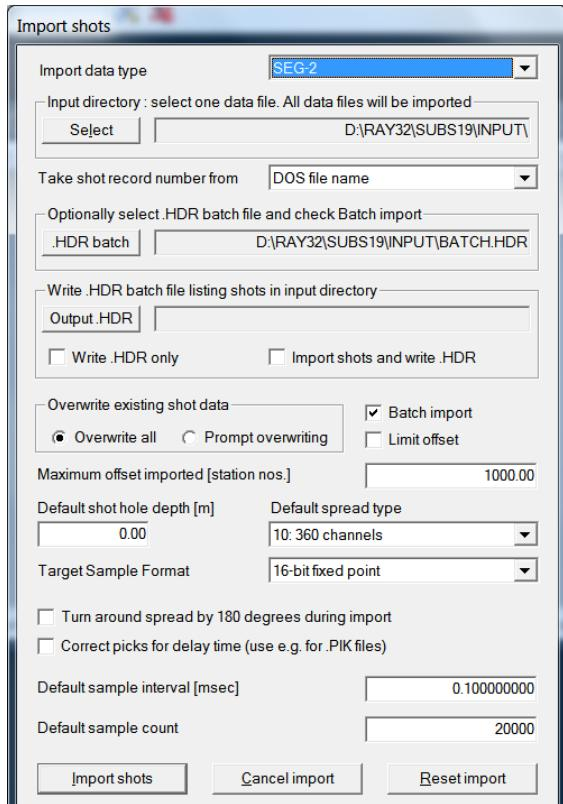

Fig. 5 : import shots with *File|Import Data...*
- select *File|Import Data...* and set *Import data type* to SEG-2 . See Fig. 5.
- check box *Batch import* and click radio button *Overwrite all* . See Fig. 5.